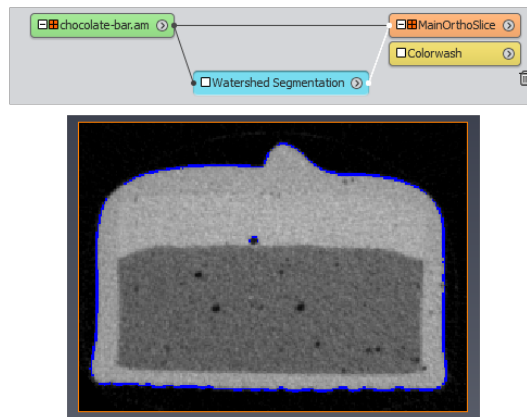

Figure 6.76: The *Watershed Segmentation* wizard at step 3.
- Then select again the *Watershed Segmentation* module (see Figure 6.76).